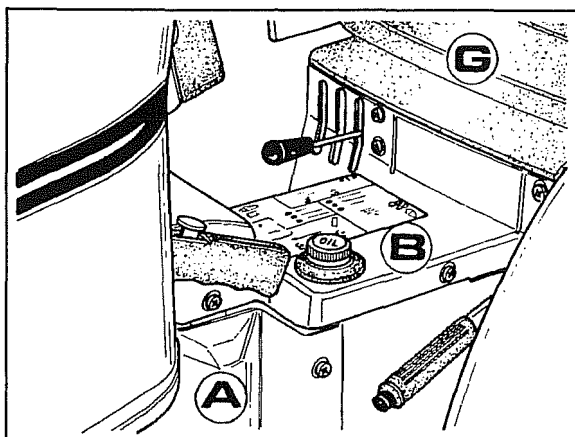

Fig. 8
1. Remove the seat **G**, the centre guard **B**, side panel **A** plus the one on the opposite side as shown in Fig. 8.